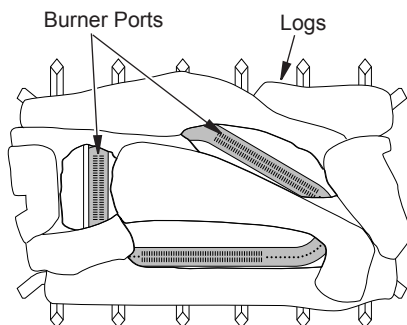

Figure 21 - Installing Log Set (Top View)
4. Make sure open areas of logs line up with burner ports (see figure 21). Logs will fit securely on chassis. **IMPORTANT:** Make sure log does not cover any burner ports.